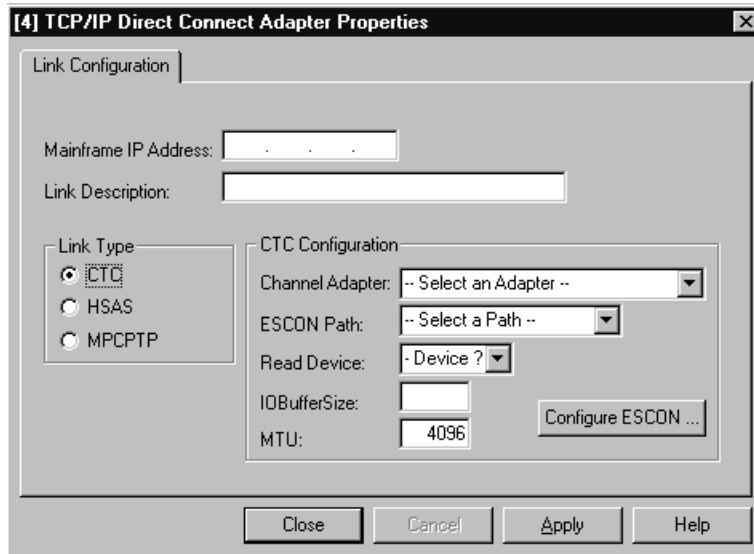

Figure 5-16. Adapter Properties
7. The TCP/IP Direct Connect Adapter Properties screen for Channel-to-Channel (CTC) link type (Figure 5-16) will display. If MPC+ for Windows NT is installed on the server HSAS and MPCPTP link types will be active. Otherwise only the CTC link type will be available. Please refer to the "*MPC+ for Windows NT Installation Guide*" for information on configuring HSAS and MPCPTP.